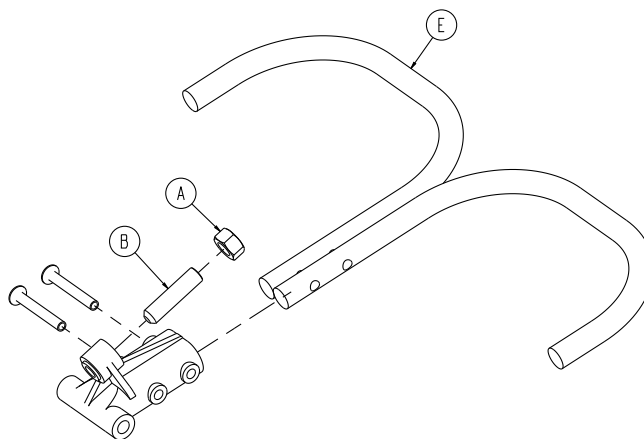

Figure 19 – Loosen the hex nut
10. Using a 1/2" combination wrench, loosen the hex nut (A) on the Fowler release handle pivot while using a 5/32" hex wrench to hold the set screw (B) fixed in the pivot (Figure 19).
11. Using a 5/32" hex wrench, turn the set screw until there is no movement between the Fowler release handle (E) and the pneumatic cylinder release button (Figure 19).
14. Using a 1/2" combination wrench, tighten the hex nut (A) while you hold the set screw (B) fixed in the pivot (Figure 19).